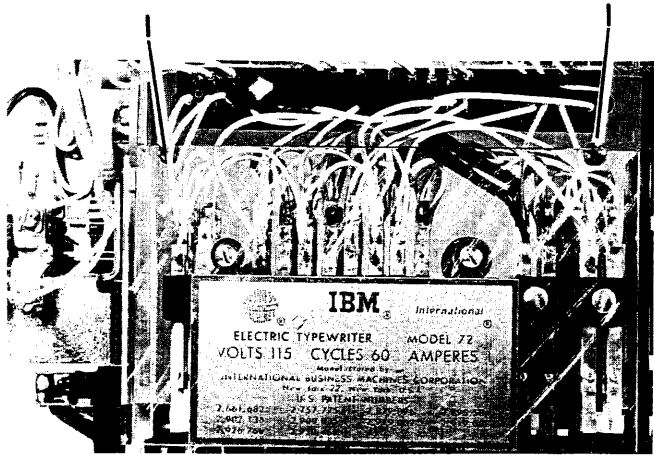

FIGURE 12. Rotate Spring Replacement
- * 4. Remove the two screws (#1, Figure 12) that hold the contact plate to the frame. Remove the contact assembly, holding it to the front with a rubber band.
3. Remove the two screws (#1, Figure 12) that hold the print contact plate to the frame. Remove the contact assembly, holding it to the front with a rubber band.